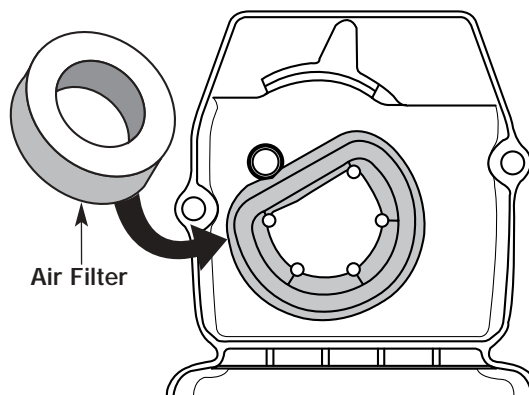

Figure 24
4. Remove the air filter from behind the air filter/muffler cover. See Figure 24.
- Replace the air filter inside the air filter/muffler cover. See Figure 24.